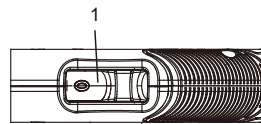

Fig. 7
To turn the blower ON, slide the ON/OFF switch (1) forward (Fig. 7). To turn the blower OFF, slide the ON/OFF switch toward the rear of the tool.